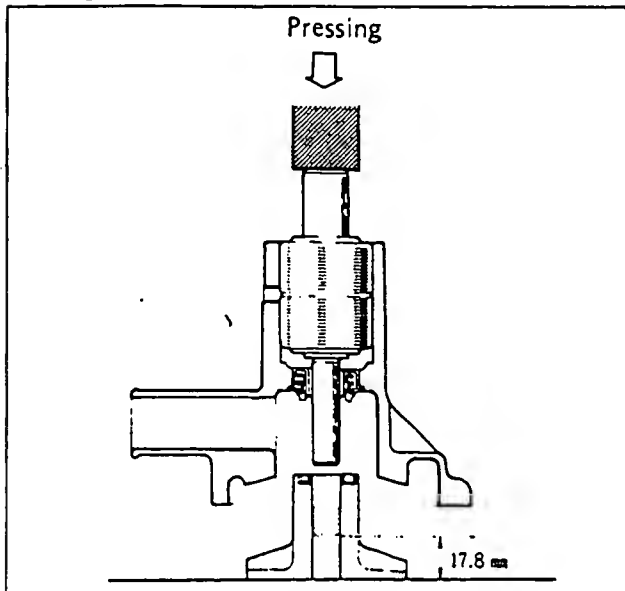

Figure 5. Press Impeller into Casing
5. Press the impeller into the casing until the impeller end is 0.70 inch (17.8mm) from the end of the bearing. See Figure 5.